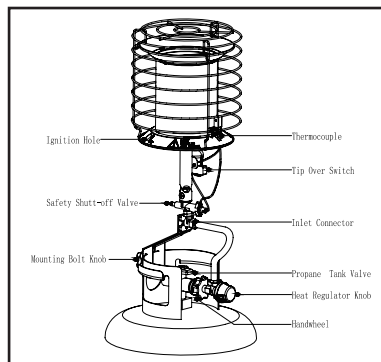

Figure 2 - Lighting Heater With a Match
2. Place a lit match near the face of the heating element (mesh screen) of the burner you are lighting. Locate the ignition hole located on the bottom of the burner. (see Figure 2.)
3. Press button on safety valve admitting gas to burner (see Figure 2).